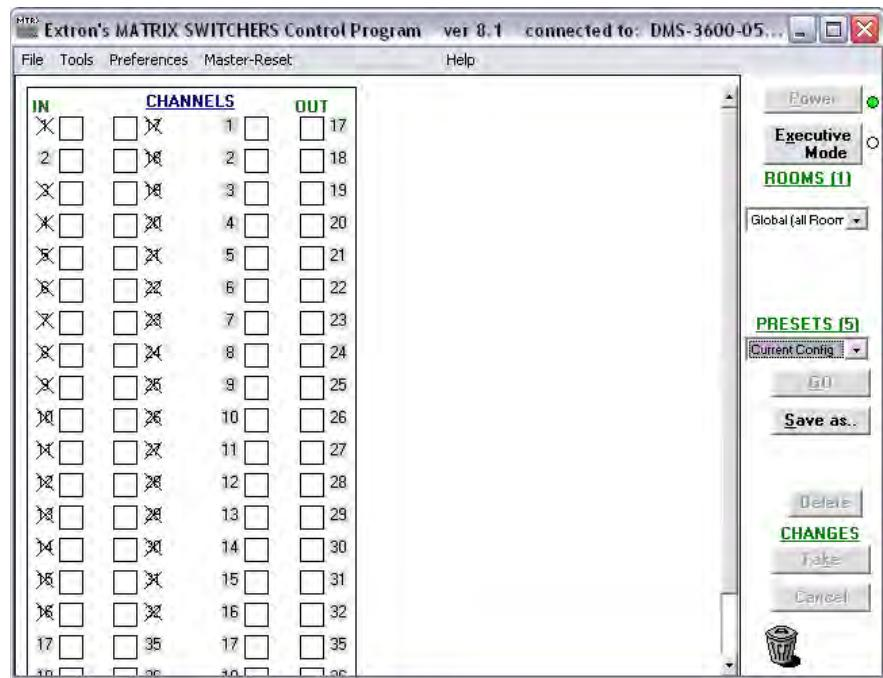
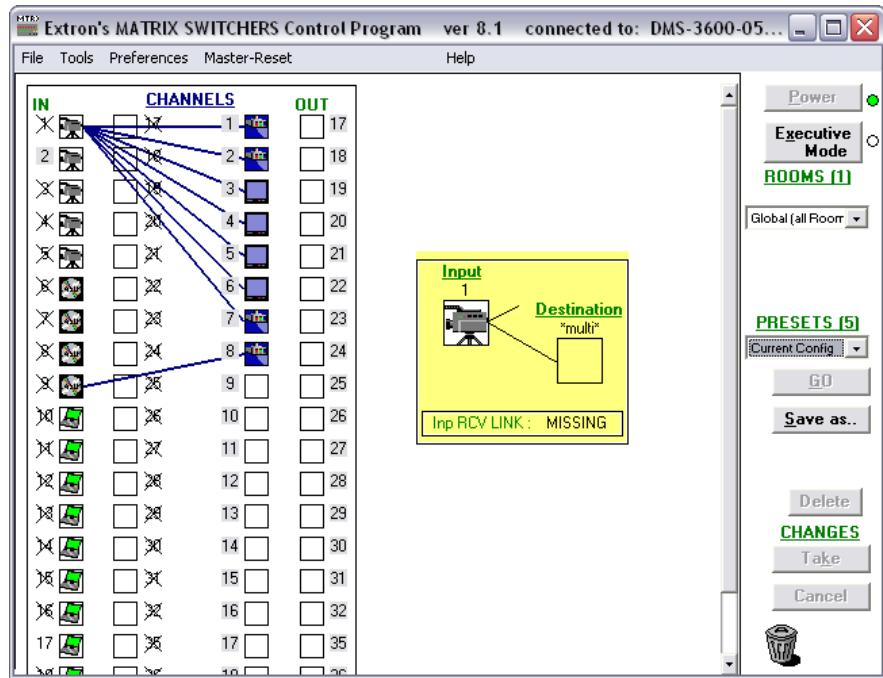

Figure 36. Extron Matrix Switchers Control Program Window
Figure 37. Sample Control Program Window, with Ties and Icons
- Click **OK**. The Extron Matrix Switchers Control Program window (see **figure 36** and **figure 37** on page 66) opens, displaying the current configuration of the attached matrix. Proceed to **Using the program** on the next page.
If you logged on with the administrator password, the program connects you to the matrix switcher with all of the administrator rights and privileges. The Extron Matrix Switchers Control Program window (see figure 36 and figure 37 on the next page) opens, displaying the current configuration of the attached matrix. Proceed to "Using the program," below.
- For quick display of information on a specific input or output device, position the pointer tool over that device in the control program window. The program opens a pop-up that details the connections to that device and the signal status (present or missing) input from or output to that device (see the inset box in figure 37 on the next page).